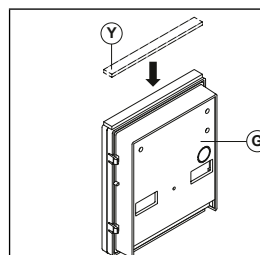

Fig. 5
Apply the (Y) seal as shown in **Fig. 5**.